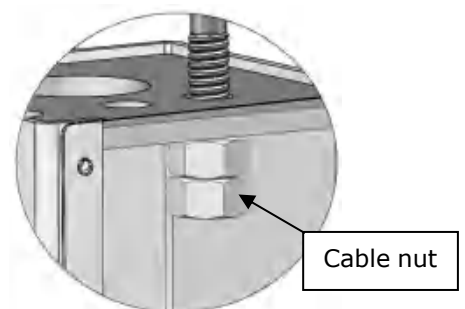

Fig. 54
1. Adjustment of synchronous cable (See Fig. 54)